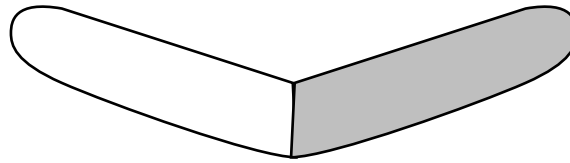

Fig. 2.1
- (a)(i)** Draw a large plan diagram of the part of the leaf on slide **K1** shown by the shaded area in Fig. 2.1.